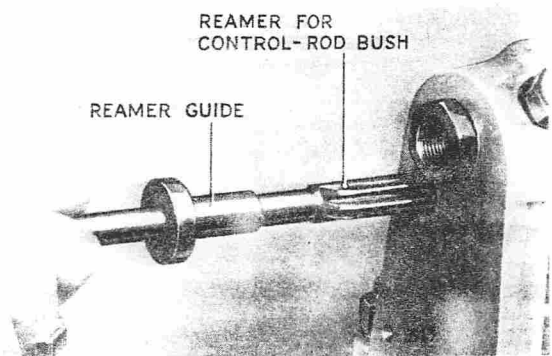

FIG. 37. REAMING CONTROL ROD BUSHES
3. New bushes will have to be line reamed after fitting with C.A.V. Tool No. ET.109 ET.110 (Fig. 37).